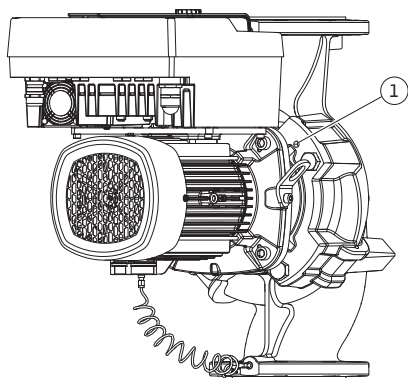

Fig. 11: Pressing off the motor impeller unit via threaded holes (DN 100 ... DN 125)
- Remove the motor impeller unit (see Fig. 4) from the pump housing. To do this, loosen all screws (DN 32 ... DN 80: Fig. I, Item 29; DN 100 ... DN 125: Fig. II, Item 29). Press the motor impeller unit off the pump housing. For DN 80 ... DN 125 use the two threaded holes (Fig. 11, Item 1). Screw M10 screws with a suitable length into the threaded holes to loosen the seat.
5. Press the motor impeller unit (see Fig. 4) off the pump housing. Use the two threaded holes for this (see Fig. 11). Screw M10 screws with a suitable length into the threaded holes to loosen the seat.